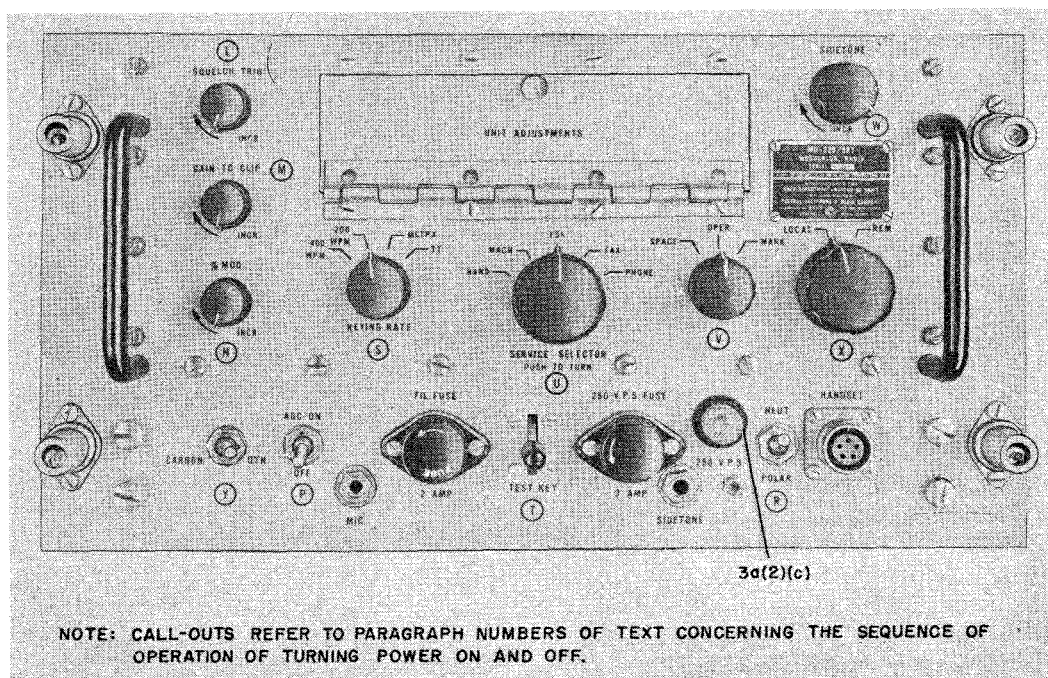

Figure 4-3. Radio Modulator MD-229/SRT (Low Level Radio Modulator, LLRM), Front Panel Controls and Indicators.
| Selection of mode of transmission. | Low Level Radio Modulator MD-229/SRT (figure 4-3) |
| Selecting local or remote operation. | Low Level Radio Modulator MD-229/SRT (figure 4-3) |
(5) SCREEN OVERLOAD RESET SWITCH (K).—In case the PA screen overload relay is energized because of excessive PA screen grid current when in 500-watt operation, the transmitter is returned to the 100-watt level. The overload is indicated by the PA SCREEN OVERLOAD lamp. When the cause of the overload is removed, depressing the SCREEN OVERLOAD RESET switch (K) restores the overload relay, and depressing the PUSH FOR 500 W (E) push button allows the transmitter to return to the 500-watt level.
(6) EXCITATION CONTROL (Z).—The input signal from the RFO varies in amplitude at the various frequencies. To compensate for this and for variances in output impedance of the PA, a control known as the EXCITATION control (Z) regulates the input level of signal from the RFO to prevent overdriving of the PA stage.
(7) INDICATOR LIGHTS.—There are eight indicator lights mounted on a panel in the lower center of the front panel. Three of these lights are overload indicators, four others indicate the condition of the carrier in either 100-watt or 500-watt operation, and the remaining light is a spare.
(8) ANTENNA CURRENT METER.—The ANT. CURRENT meter is placed in the output of the PA stage to give indication of amplitude of r-f line current at the output of the RFA.
(9) FUSE.—A 3-amp fuse is located on the front panel for protection of the blower motor in the RFA.
b. RADIO MODULATOR MD-229/SRT (LOW LEVEL RADIO MODULATOR).—The front panel of the low level radio modulator (LLRM) (figure 4-3) contains the following major control functions: selection of the mode of transmission, selection of local or remote transmission, and controls of audio modulator and keyer circuits.
(1) SERVICE SELECTOR CONTROL (U).—The mode of transmission of the transmitter group is determined by the manual setting of the SERVICE SELECTOR control (U). The control has five positions: HAND for hand-keyed cw, MACH for c-w keying originating from a machine-keying device such as teletype, FSK for frequency-shift keying from machine-keying equipment, FAX for facsimile transmission and phone for amplitude-modulated phone transmission. To prevent random bursts of transmission when the contacts are transferred during radio silence and to prevent switching of power supply circuits under load, a push-to-turn feature is incorporated in this switch.
(2) SQUELCH TRIG. CONTROL (L).—The SQUELCH TRIG. control (L) is used only when the SERVICE SELECTOR control (U) is in the PHONE position. When monitoring through SIDETONE jack, this control is adjusted to reduce the noise level between words to a minimum without sacrificing low level voice. The setting is a compromise between low level speech signals and the noise level during pauses in speech.